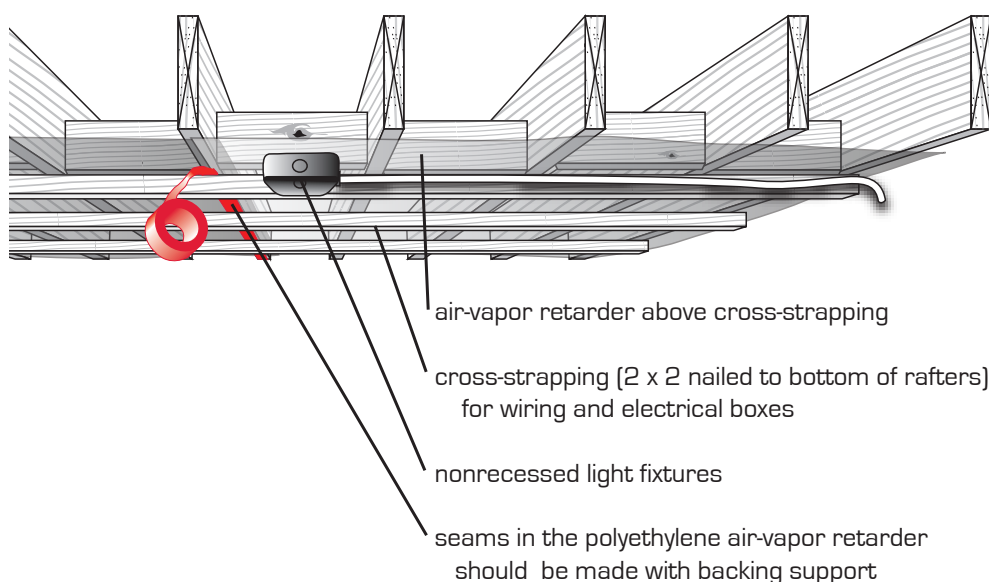

Figure 7.7: Ceiling air-vapor barrier detailing
- Minimize electrical boxes in the ceiling. When using a polyethylene air-vapor retarder, cross-strapping will provide a cavity for wiring and electrical boxes on the inside of the air-vapor retarder (Figure 7.7). Always be certain that the seams in the polyethylene ceiling air-vapor retarder are supported with solid backing. No seams or joints in the polyethylene air-vapor retarder should ever be made without this backing support.
Wiring penetrations of the ceiling often occur through partition-wall top plates and can be sealed directly to the air barrier and top plate with acoustical sealant (Figure 7.7). Some caulking materials may react with the wiring sheathing, and so this method may not be acceptable to electrical inspectors, in which case a rubber gasket, as described for plumbing stacks, could be used.